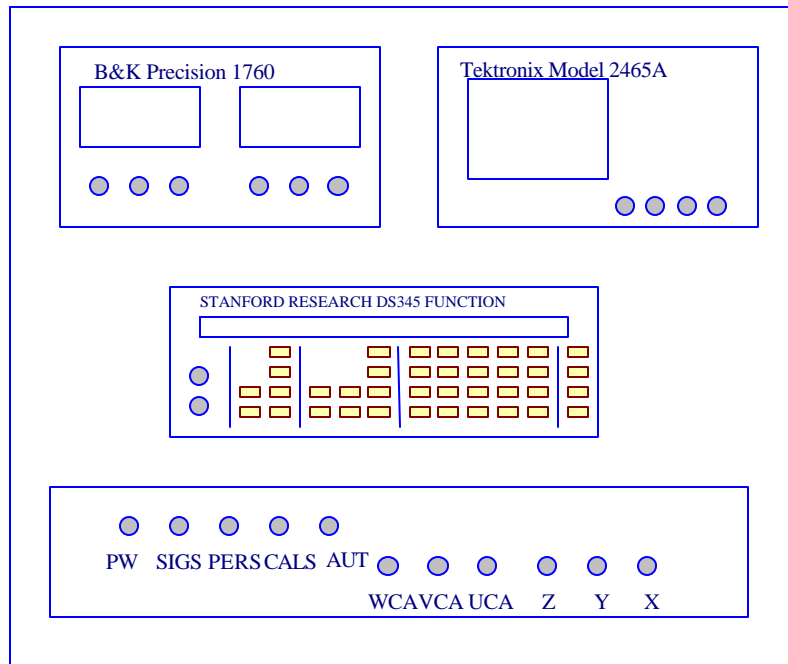

Figure 1. Remote Interface Box Test Setup
- 3.2 Set up the equipment as shown in Figure 1 below.